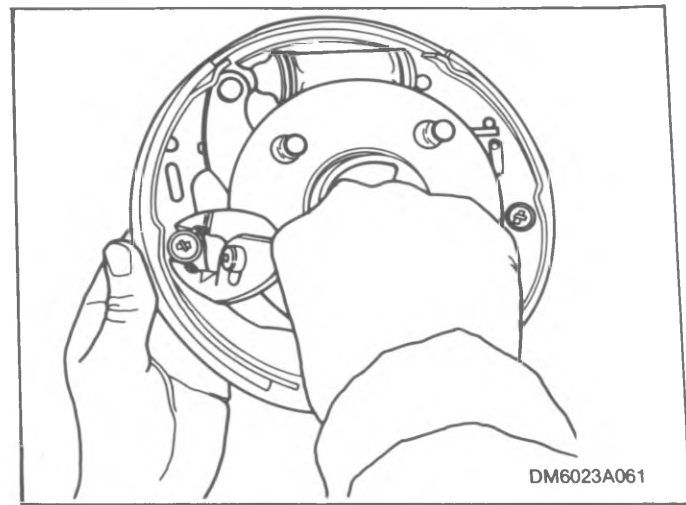
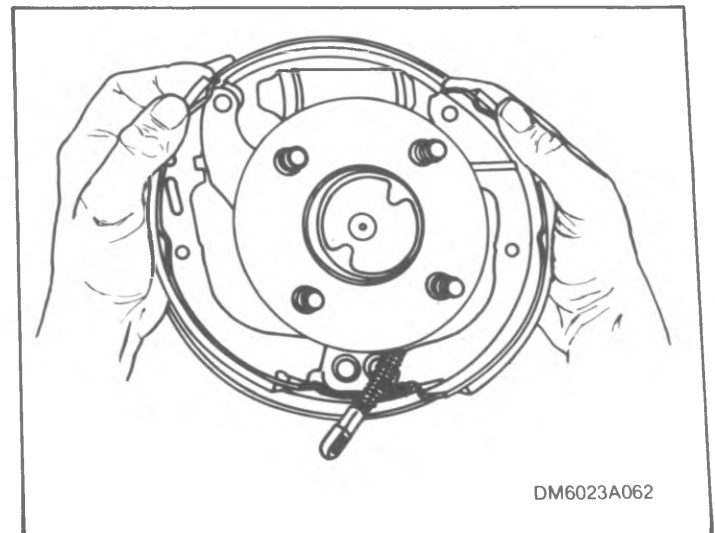

Figure 4-17. Removing Hold-Down Springs
Figure 4-18. Removing Brake Shoes and Attached Parts
3. Remove hold-down springs (2) using brake spring pliers as shown in figure 4-17.
4. Remove hold-down pins (3).
5. Remove brake shoes (6 and 7), with parking brake strut (4), shoe retaining spring (5) and parking brake lever (8), as a unit (see figure 4-18).
6. Remove parking brake strut (4), shoe retaining spring (5) and parking brake lever (8) from brake shoes (6 and 7).